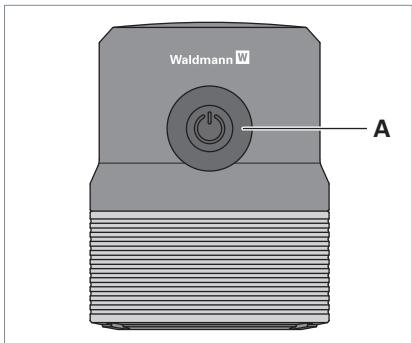

Fig. 5: Key.
- ▶ To switch the luminaire on and off, press the key A on the top side of the luminaire head, see Fig. 5.
- ▶ To switch to the dimming mode, press the key A and keep it depressed for 10s, see Fig. 5.